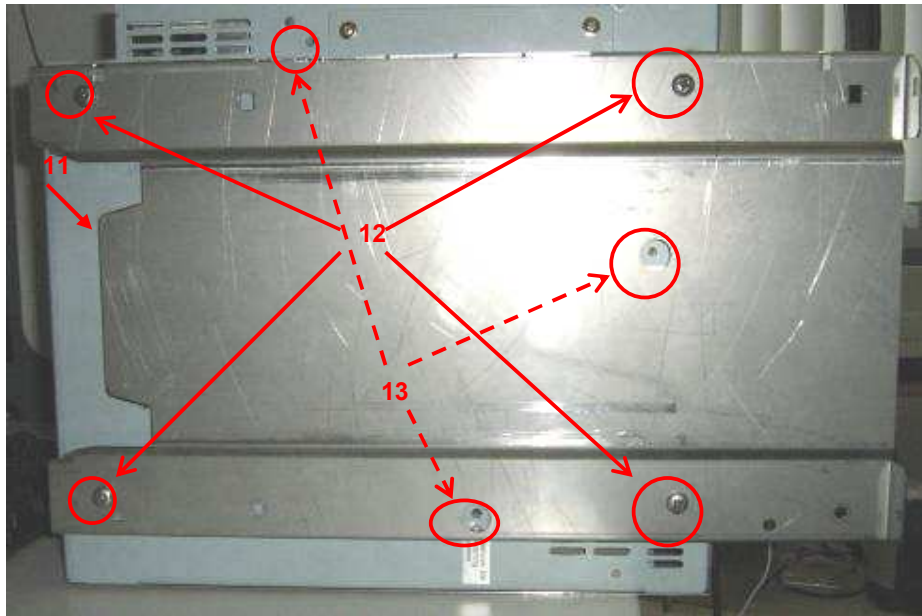

Figure 9: FL base attachment and shipping screw removal
9. Fit the Bracket Tray (11) to the base of the Detector using the four screws and four washers provided (12). Once the tray has been attached, then remove the 3 transport/shipping screws (13) from the base of the Detector (Figure 9)